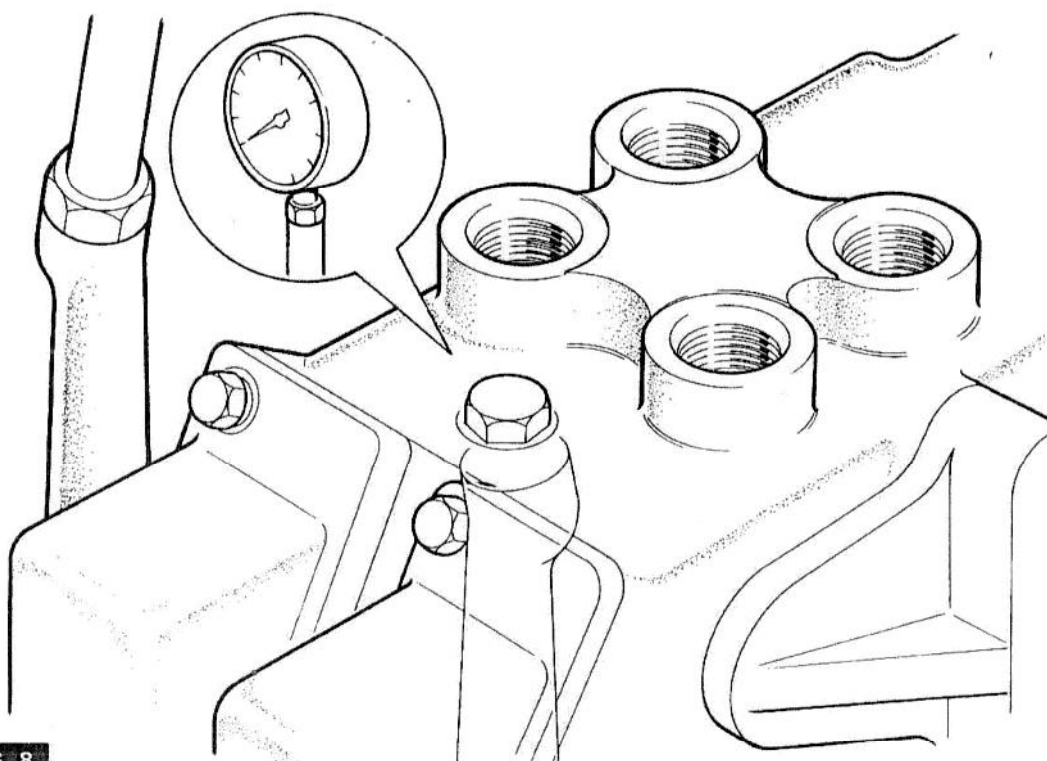

FIG. 8
4. (Fig. 8). Remove the plug and connect in its place gauge No. MF 148A and adaptor No. MF 148-9.